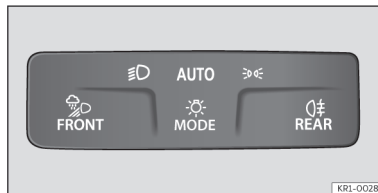

Fig. 91 Dash panel: light panel.
- Switch on the ignition and select mode **AUTO** on the headlight control >>> **Fig. 91.**
- Switching off mode **AUTO** on the headlight control >>> **Fig. 91.**